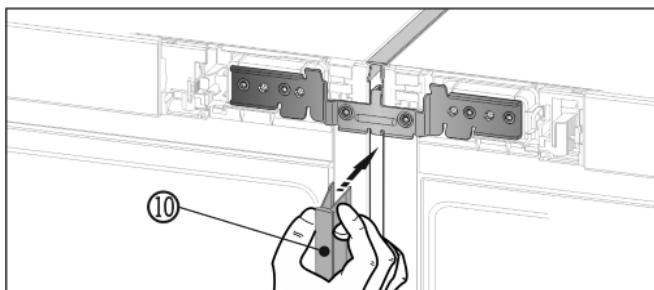

Fig. 14
- ▶ On the front, press the long trim *Fig. 14* (10) into the vertical gap. Ensure that the strip rests on the connecting plate.